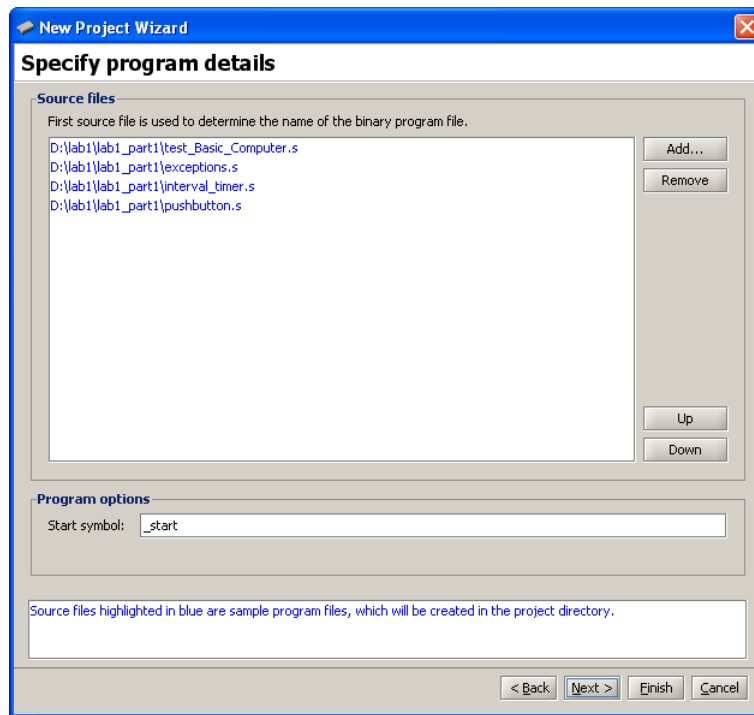
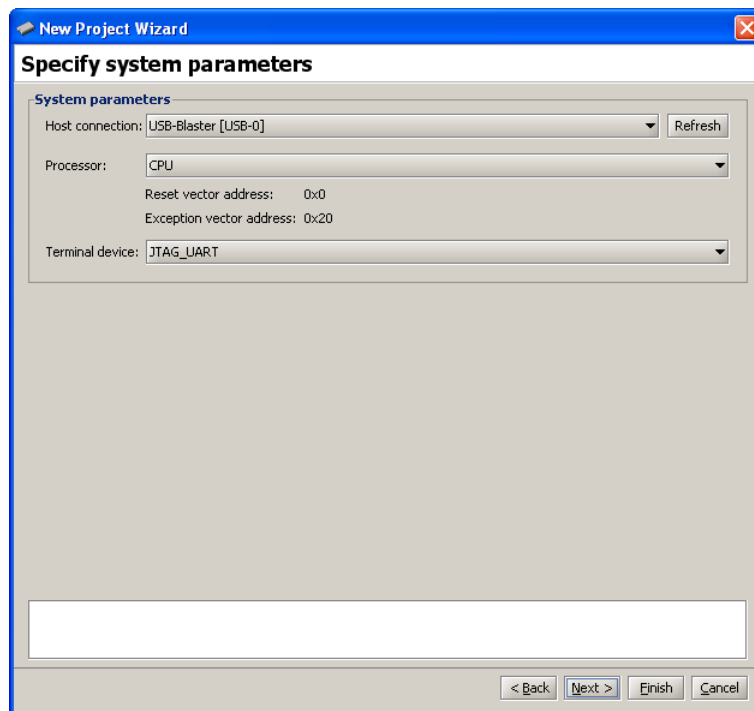
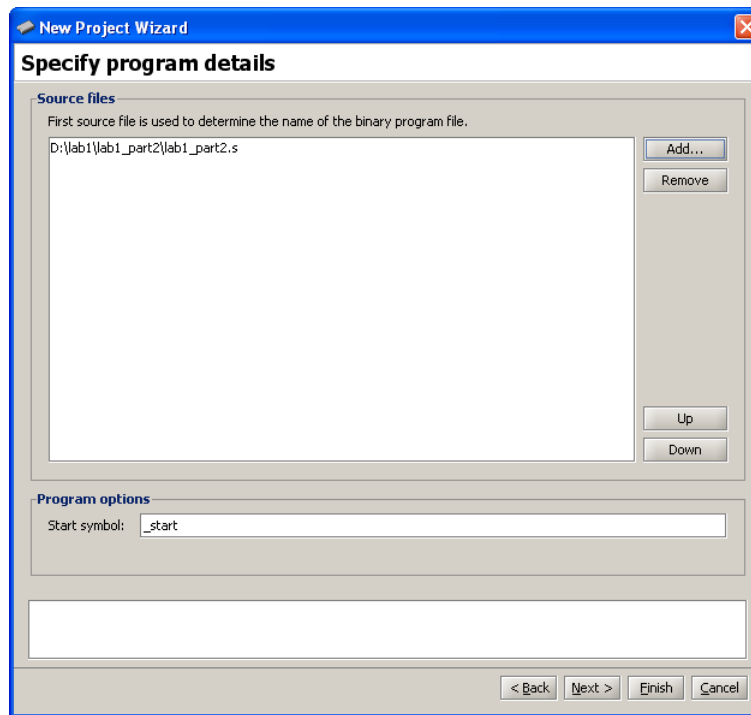

Figure 5: Source files used by the application program.
Figure 6: Specify the system parameters.
Figure 12: Select your source program.
5. The window in Figure 5 is used to specify the source file(s) that contain the application program(s). Since we have selected the *Test Basic Computer* program, the window indicates the files that are used by this program. This window also allows the user to specify the starting point in the selected application program. The default symbol is *_start*, which is used in the selected sample program. Click **Next**.
6. The window in Figure 6 indicates some system parameters. Note that the *USB-Blaster* cable is selected to provide the connection between the DE-series board and the host computer. Click **Next**.
3. Upon reaching the window in Figure 5, you have to specify your program. Click **Add** and in the pop-up box that appears indicate the desired file name, *lab1_part2.s*, and its location. This should lead to the image in Figure 12. Click **Next** to get the window in Figure 6. Again click **Next** to get to the window in Figure 7. Make sure that the SDRAM is selected as the memory device. Note that the *Start offset in device* will be 0, because the program in Figure 10 does not indicate that it should be loaded at a location that is different from the default location 0. Click **Finish**.